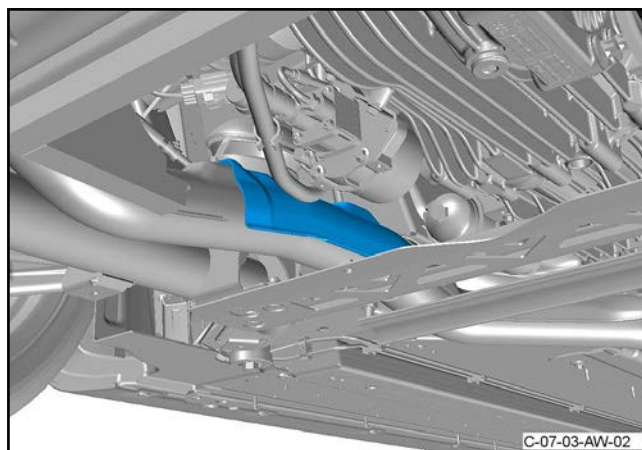

Figure 8
12. Remove the heat shield (refer to Figure 8)